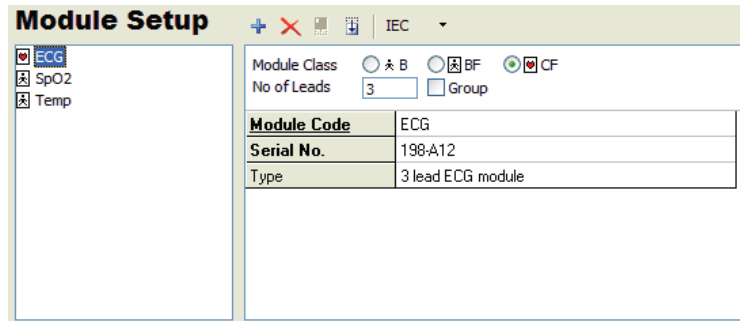

Figure 3-8. Sample Module Setup Screen
3. Select the appropriate module class, the number of patient leads, and enter a module code for each module tested. Figure 3-8 shows a sample module for a patient monitor.